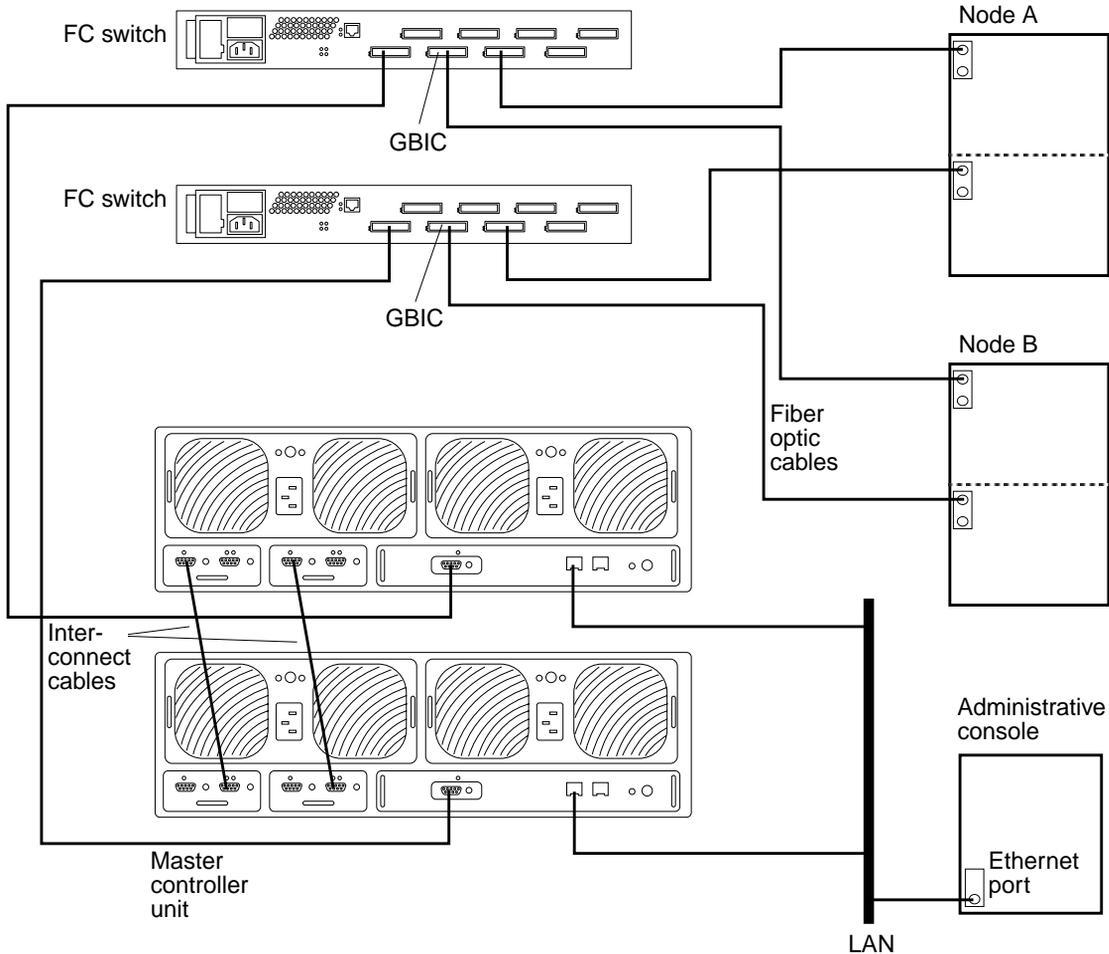

FIGURE 9-4 Adding a Sun StorEdge T3/T3+ Array, Partner-Pair Configuration
43. If necessary, install GBICs to the FC switches, as shown in FIGURE 9-4.
44. Connect fiber optic cables between the FC switches and Node B as shown in FIGURE 9-4.